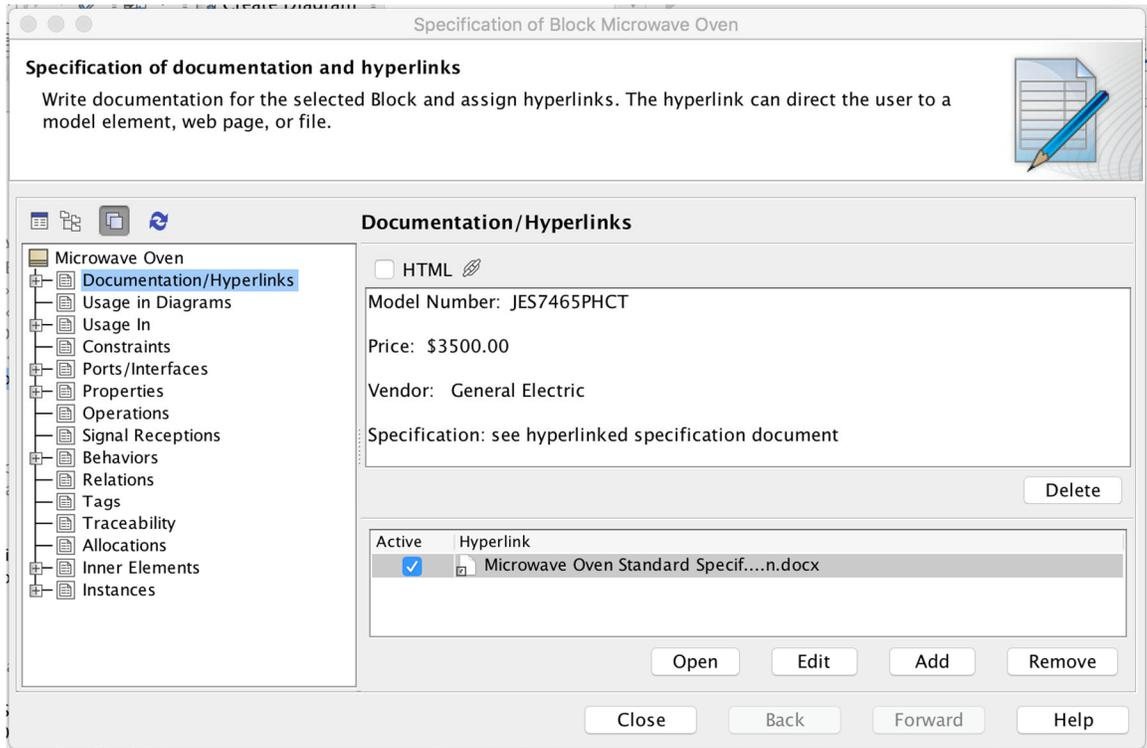

Figure 37. Physical Specification Data
- A. The simplest way to incorporate physical (“point design”) data in a model is to add it to the specifications of existing model Elements. Figure 37 shows this for the Microwave Oven Block; whatever detail is required to document each item of the actual system gets included or referenced.